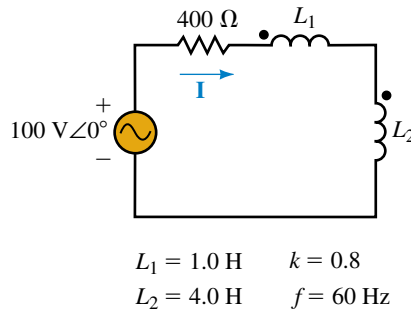

FIGURE 24-78
36. For the circuit of Figure 24-78, determine I .